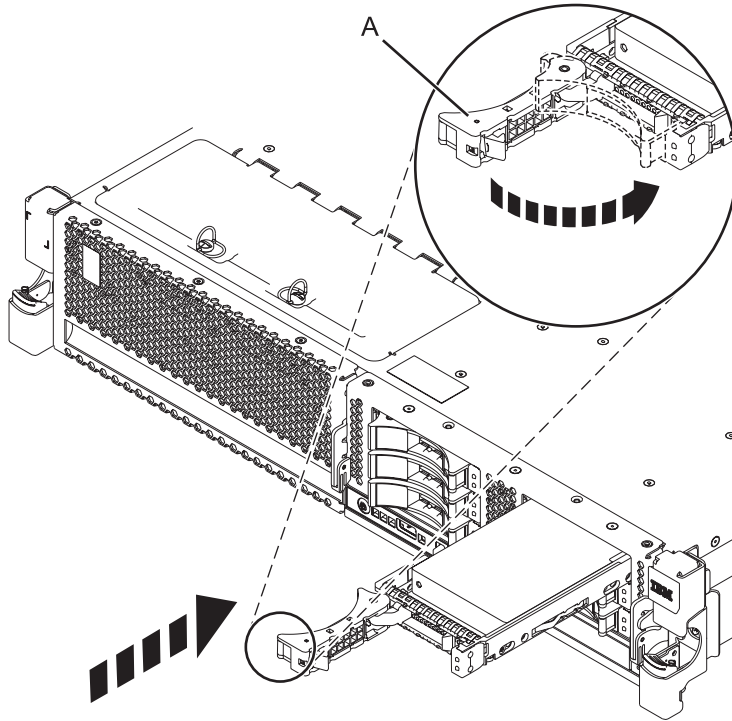

Figure 1. Installing the disk drive in the system
- When the identify LED turns on solid, slide the drive all the way into the system or an expansion unit, and push the drive handle (A) in until it locks. See Figure 1.